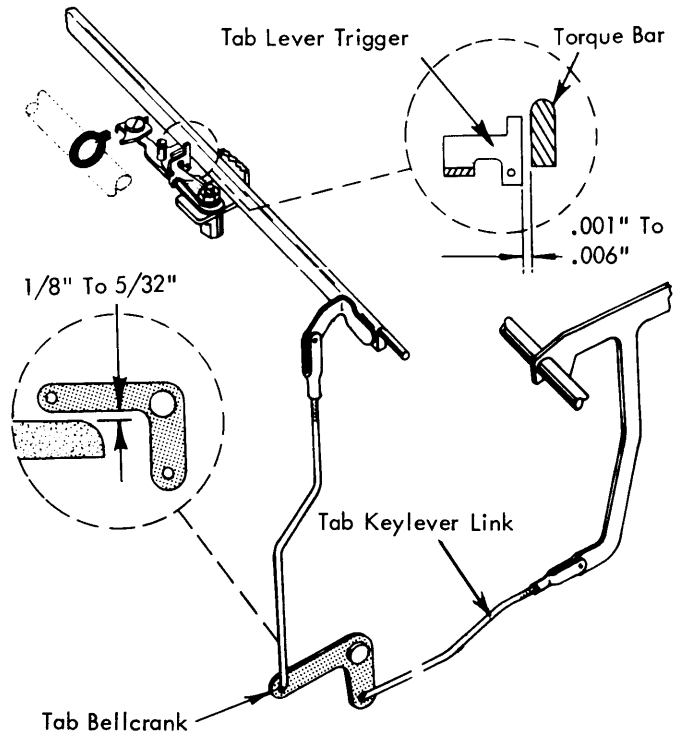

FIGURE 165. Tab Linkage Adjustment
- a. For the best leverage, the tab keylever link should be adjusted for a rest position clearance of $1/8''$ to $5/32''$ between the powerframe and the long arm of the tab bellcrank (Fig. 165).
- b. For minimum lost motion adjust the tab bellcrank so that a rest position clearance of $.001''$ to $.006''$ exists between the tab torque bar and the lug of the tab lever trigger (Fig. 165).